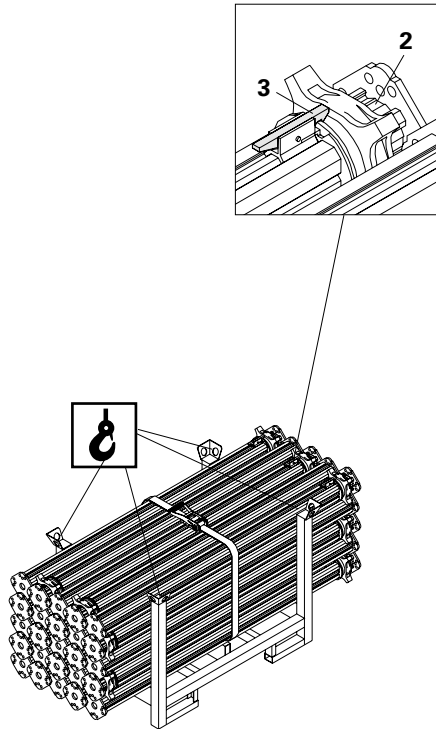

Fig. A5.01
**Store and transport slab props of the same size! (Fig. A5.01 + A5.02)**